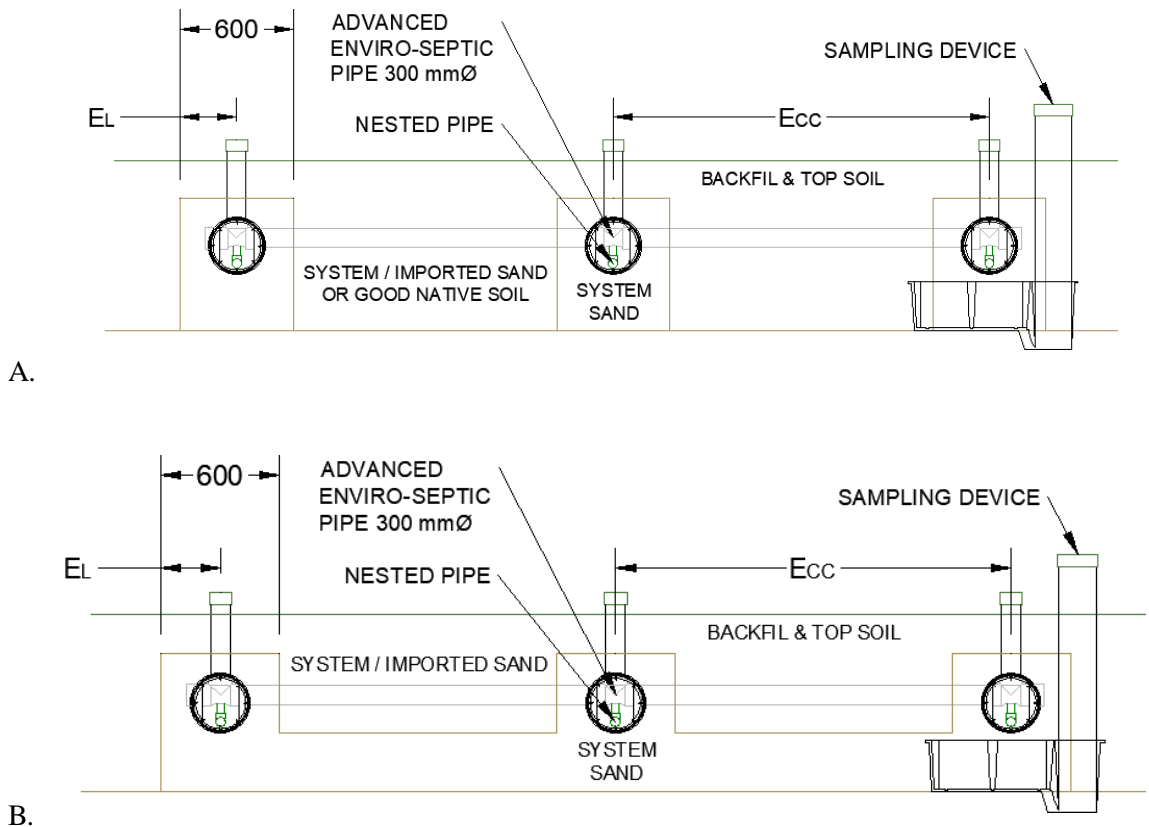

Figure 38. A. Front view - Nested pipe configuration. B. Front view- Nested pipe configuration (T > 20)
- When made into trenches separated by Native Soil or Imported Sand, the width of the trenches should be 600 mm as seen in Figure 38.
When the T-time of the underlying soil is greater than 20, the entire area should be excavated. The system must be built as a continuous layer of system sand with a thickness of at least 300 mm under the Advanced Enviro-Septic Pipes. Imported sand may be used as backfill on top of and between the rows of Advanced Enviro-Septic pipes, provided that a minimum of 100 mm of System Sand shall be placed on top the Advanced Enviro-Septic Pipes, and a minimum of 150 mm of System Sand shall be placed beside each of the Advanced Enviro-Septic Pipes (see Figure 38 B.).